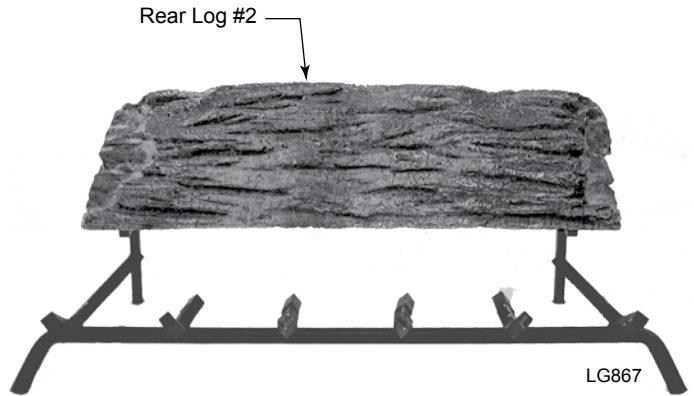

Figure 49 - Place Rear Log on Grate
1. Place Back Log #2 on grate bars on back of grate. *Figure 49*